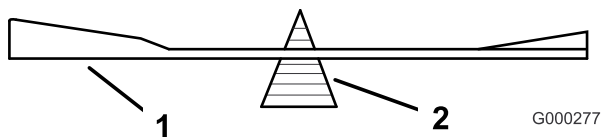
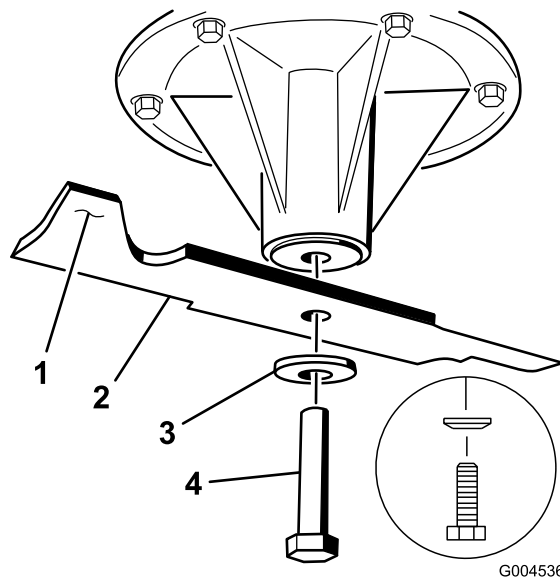

Figure 102
Figure 103
2. Check the balance of the blade by putting it on a blade balancer (Figure 102). If the blade stays in a horizontal position, the blade is balanced and can be used. If the blade is not balanced, file some metal off the end of the sail area only (Figure 103). Repeat this procedure until the blade is balanced.
1. Install the blade onto the spindle shaft (Figure 103).
2. Install the spring disk and blade bolt. The spring disk cone must be installed toward the bolt head (Figure 103). Torque the blade bolt to 85-110 ft-lb (115-150 N-m).